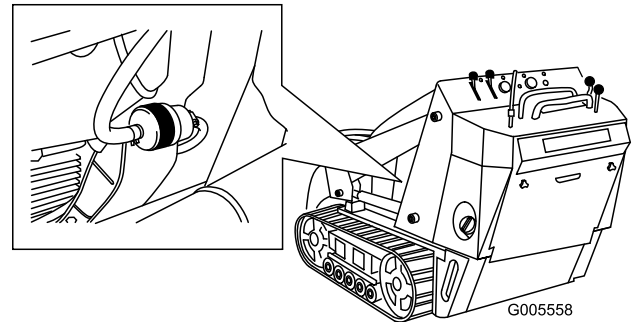

Figure 36
4. Clamp the fuel lines on both sides of the fuel filter (Figure 36).
5. Squeeze the ends of the hose clamps together and slide them away from the filter (Figure 36).